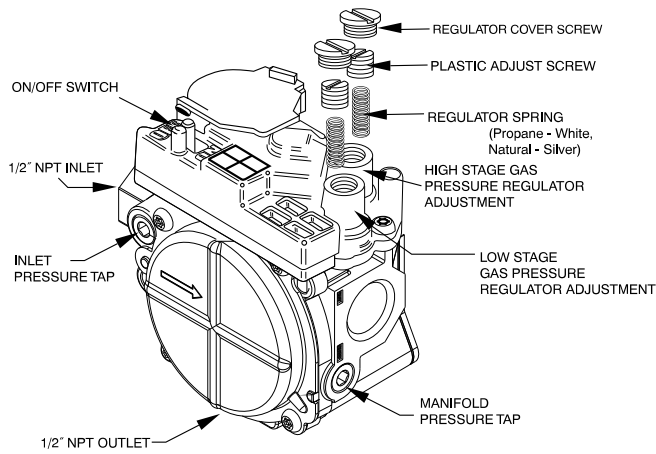

Fig. 2 – Two-Stage Gas Valve
16. Remove regulator cover screws for both high and low stage gas regulators (see Fig. 2). Save regulator cover screws.
17. Using a screwdriver, remove plastic adjust screws from both high and low stage gas regulators (see Fig. 2). Save plastic adjust screws.
18. Remove regulator springs (white) from both high and low stage gas regulators (see Fig. 2). Discard regulator springs.
19. Install natural gas regulator springs (silver) shipped with this kit. One into the low stage gas regulator and one into the high stage gas regulator (see Fig. 2).
20. Install plastic adjust screw into the high stage gas regulator, turn clockwise 12 turns (see Fig. 2).
21. Install plastic adjust screw into the low stage gas regulator, turn clockwise 9 turns (see Fig. 2).